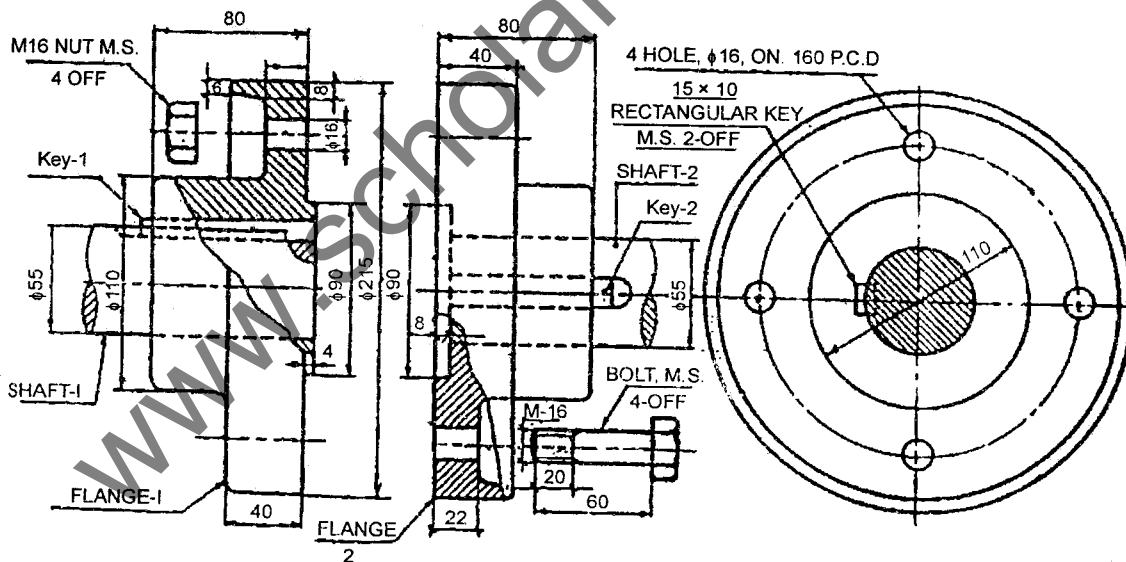

Fig. 1
7. Figure 1 shows the detail of protected type flange coupling. Assemble the given components and draw the front view (upper half in section) of assembly.